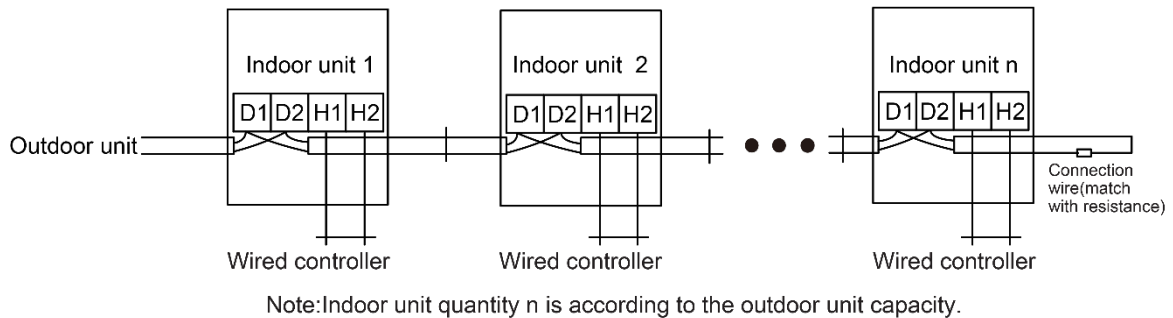

Fig.5.3.2
- (4) Fix the communication cable with clamp of electric box.
- (5) For more reliable communication, make sure connect the terminal resistor to the most downstream IDU of the communication bus (terminal D1 and D2), as shown in Fig.5.3.2, terminal resistor is provided with each ODU.